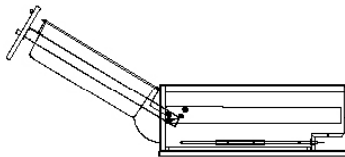

Figure 1
3. Thoroughly clean the unit before placing it in service. Remove the drawer by extending it fully then lifting slightly on the front of the drawer to clear the drawer stop. Replace the drawer by reversing this procedure. See Figure 1 below.